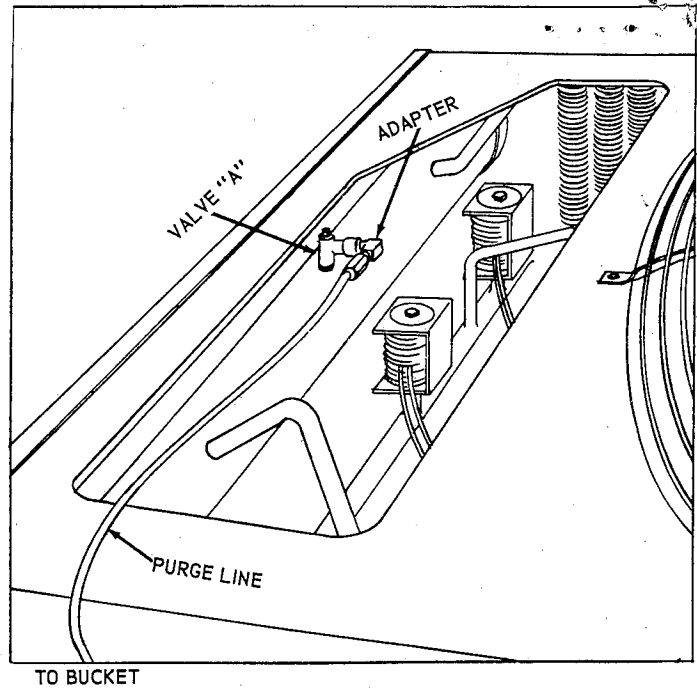

Figure 6
Purging is accomplished through Valve "A" as shown in Figure 6, and at Valve "D" at the purge pot.
2. Attach purge line to Valve "A" as shown in Figure 6 and place free end of purge line in bucket of water.